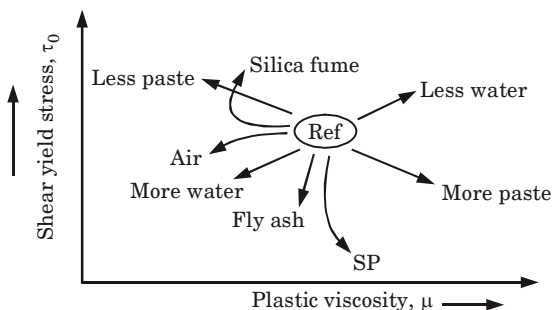

Fig. 3.12.2. Effect of air, water, and mineral admixtures on flow characteristics of concrete,
- 2. Different Additives :** The effect of air, water, and other mineral admixtures on rheological parameters of concrete is shown in Fig. 3.12.2.